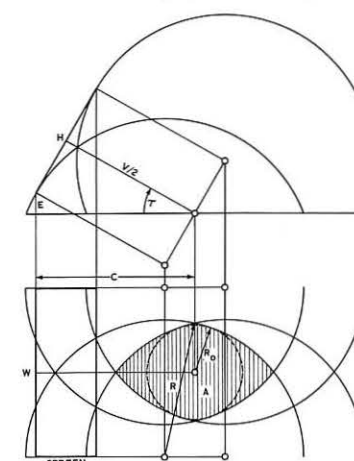

FIGURE 5: Optimum display geometry for single screen. INFORMATION DISPLAY, NOVEMBER/DECEMBER, 1966
This optimum geometry is illustrated in Figure 5 for a screen of height H , width W , diagonal D , and lower edge at a height E above eye level. τ is the tilt angle measured from the vertical and C the horizontal distance to the audience center from the lower edge of the screen. Attached at the corners of the screen are tangent spheres of diameter V equal to the visual range. Their eye level intersections appear in the plan view as circles of radius R which limit the audience of area A (crosshatched). The area enclosed by the inscribed circle (dotted) of radius R_0 will become significant for display systems with several screens.
Figure 5 yields the following geometric relationships:
The configuration of the optimum system is now fully defined. The screen is 11 m high and 5.5 m wide. The symbols measure 2.75 cm \times 2.75 cm and have a visual range V of 15.75 m. According to (4) and (5), the screen is tilted at an angle $\tau = 35$ degrees. According to (3), the center of the audience is at a distance $C = 9.7$ m from the lower edge of the screen. According to (6), the circles which limit the audience area have a radius $R = 6.5$ m. As shown in Figure 5, their centers are offset with respect to the center of the audience. The lateral displacement is equal to the half-width of the screen. The longitudinal displacement